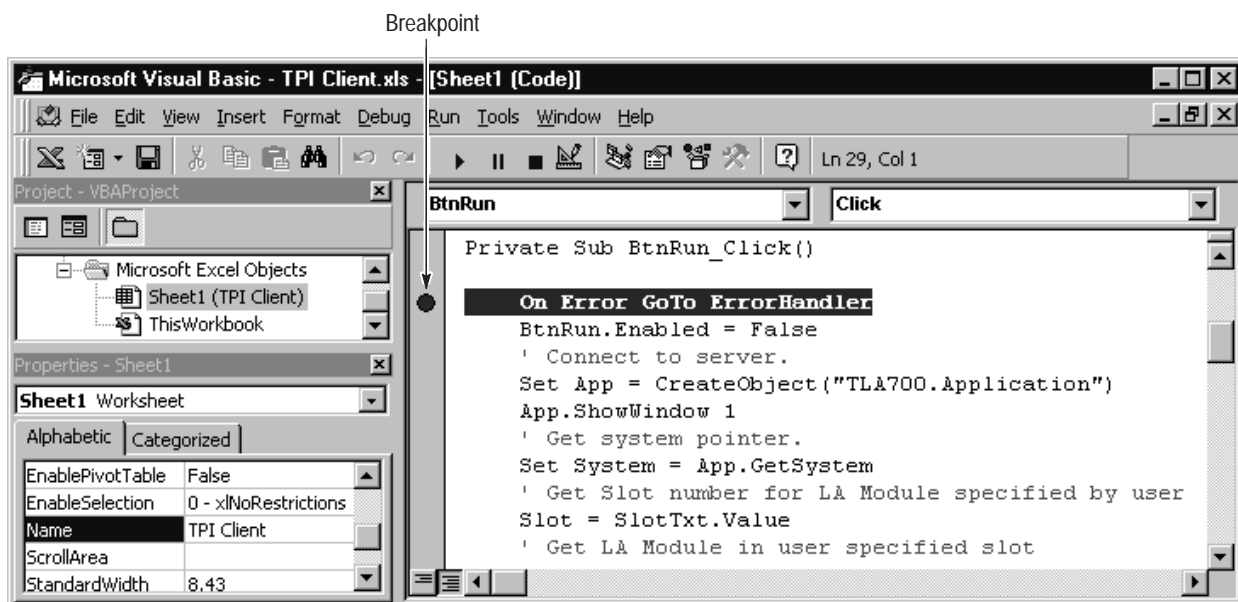

Figure 4–34: VBA Source window after setting the breakpoint
4. Click in the location identified as Breakpoint in Figure 4–34. Your VBA Source display should look similar to Figure 4–34.
5. Select the TPI\_Client.xls spreadsheet and click the “Exit Design Mode” button on the floating Visual Basic toolbar (Figure 4–35 on page 4–48).